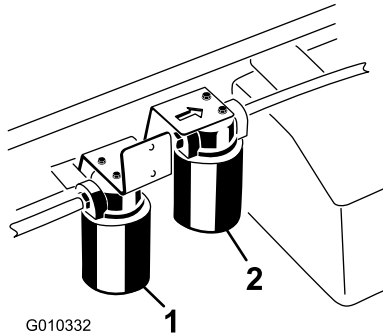

Figure 65
3. Place a drain pan under the filter and remove the filter (Figure 65).